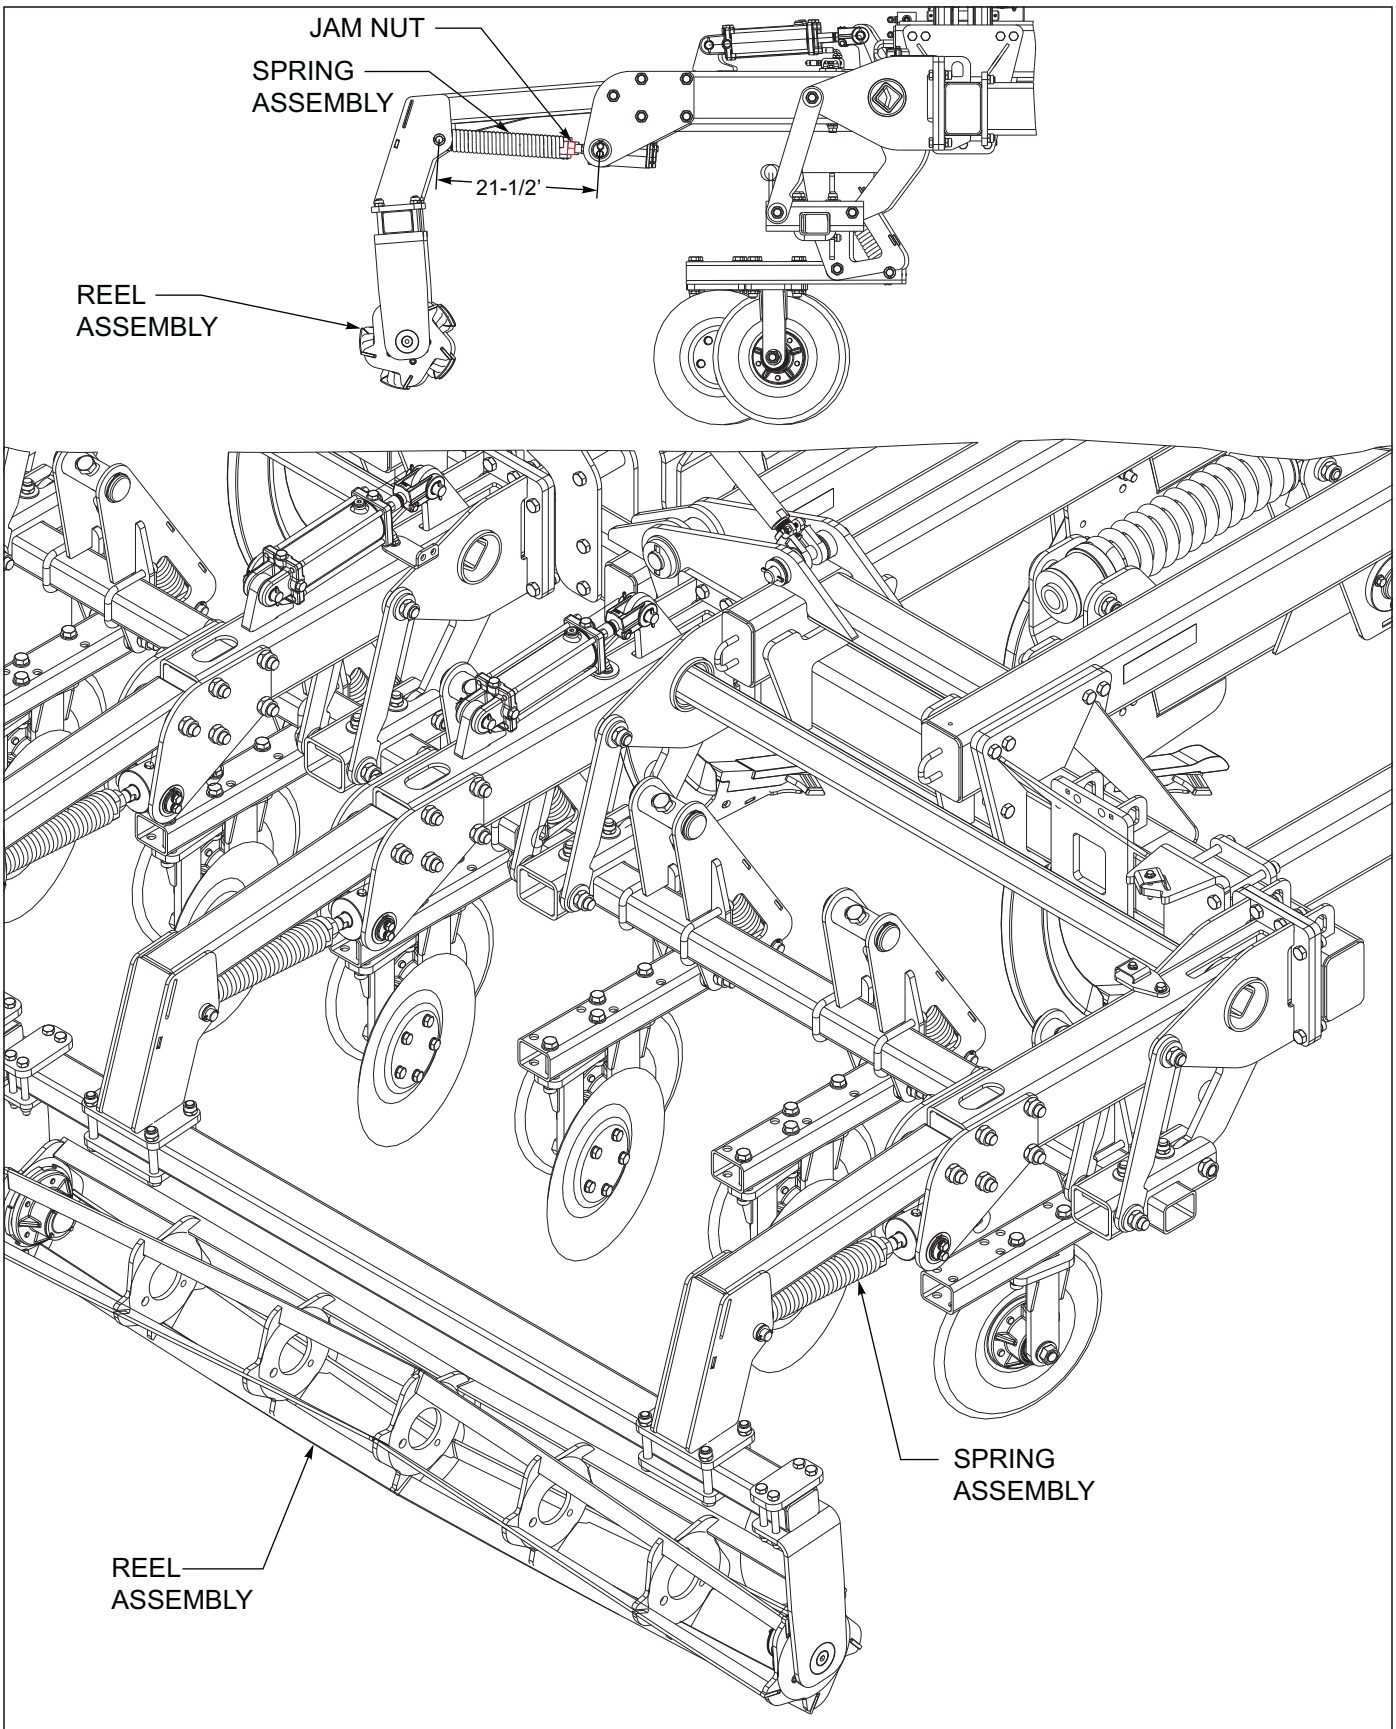

Figure 4-17: Disc Lev/Hyd Flat RL Adjustments
1. The optional Disc Leveler/Hydraulic Flat Reel attachment consists of independent disc assemblies that are meant to cover the shank tracks with soil and then a reel assembly that firms up the soil **See Figures 4-17**.
7. The reel assembly down pressure spring is preset at 21-1/2", if more or less pressure is needed the cylinder rod may be turned inside the spring to adjust this length **See Figures 4-17**. Adjust the cylinders as follows, loosen up the jam nut against the spring, loosen the set screw in the end casting of the spring, and using the wrench flats on the cylinder the reel may be lowered or raised as needed. Then re-tighten the set screw and jam nut. The reel may be ran fully raised if needed to prevent plugging in adverse conditions.